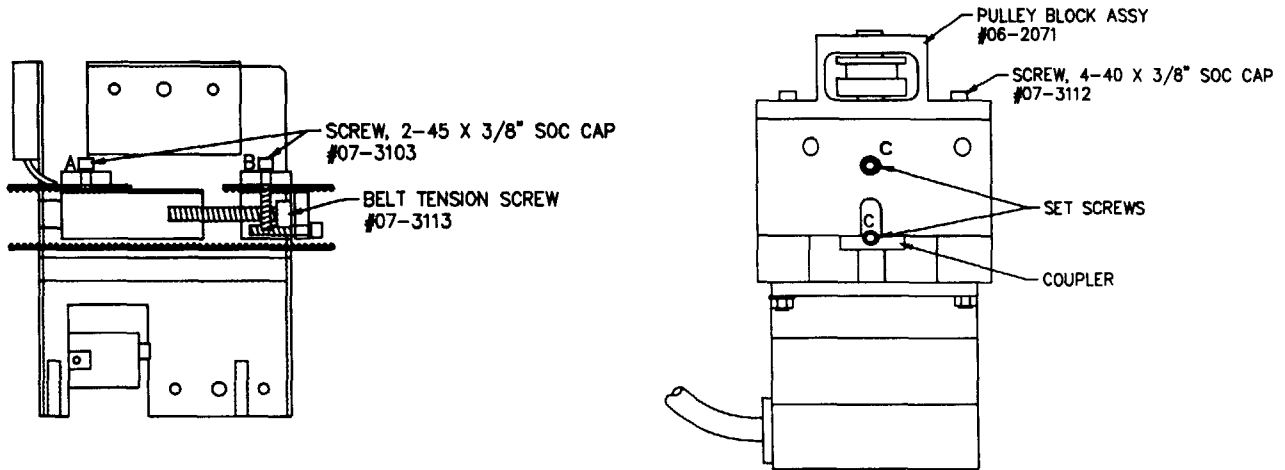

Figure 3-5a. Z Axis Assembly Screw Locations.
Refer to figures 3-5a and 3-5b for the following:
- Loosen the 2-56 x 3/8" socket screws (4 places) located under the Z Axis Assembly, shown in figure 3-5a, and remove the X Axis Timing Belt. If the screws on retainer 'A' cannot be accessed, loosen the 2-56 x 3/8" socket screws (2 places) securing the Belt Tension Adjustment Screw Retainer and turn the 6-32 x 1" Belt Tension Adjustment Screw counter-clockwise until the retainer screws are accessible.